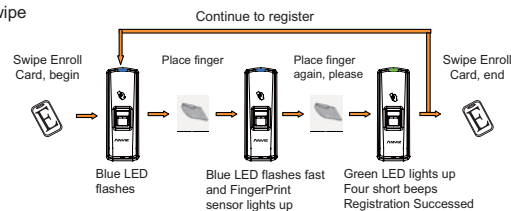

Figure 1.1
- **Add Fingerprint Only: (Operation Steps show as figure 1.1)**